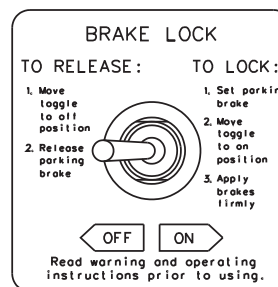

FIGURE 2
2. Move toggle to OFF position as indicated on dash plate (Figure 2).